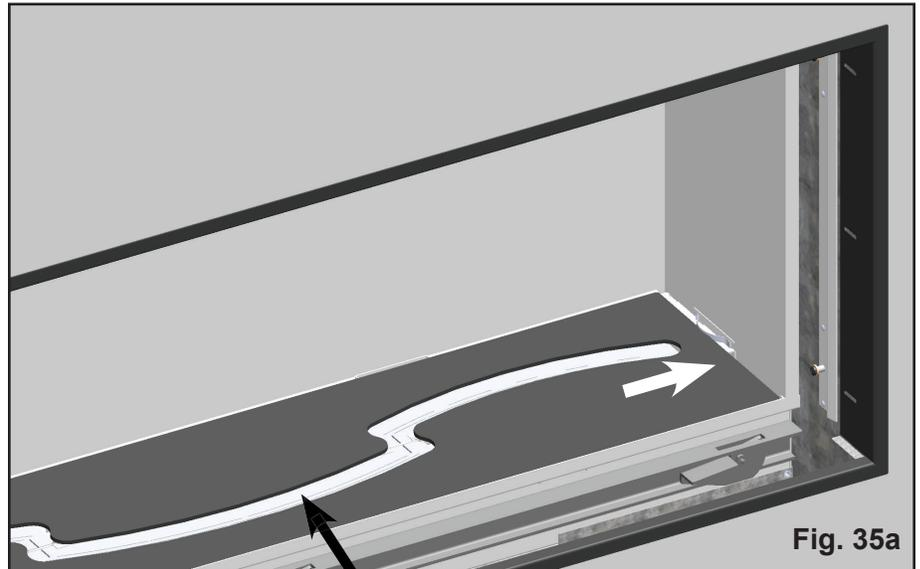

Fig. 35a
3. Lower the floor glass, ensure the other edge is against the opposite tension spring. (Fig. 35a) The floor glass should self-center left to right. Position the ember shield while lowering the floor glass, see notes below.